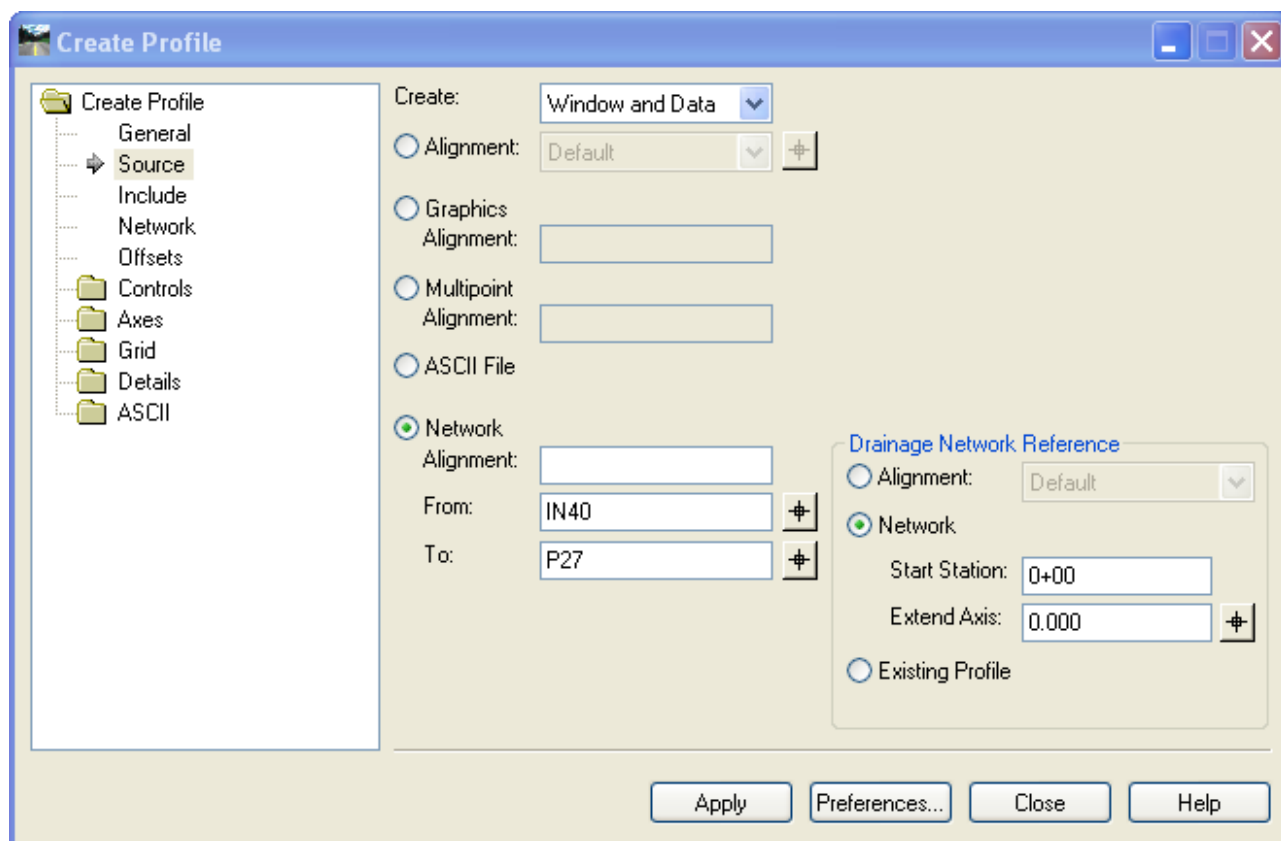

Figure 14-11 InRoads Create Profile Dialog Box, placing drainage on an existing profile
- D. Under Source, follow figure 14-11.